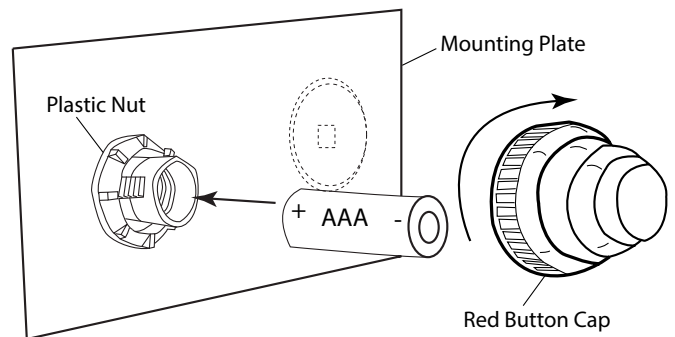

Fig. 13 Installing battery into Piezo module.
Step 4: The Piezo module mounts directly to the MT key valve bracket. Install the Piezo module using the smaller hole with the two notches and slide module into the place until it stops. Using the plastic nut thread it onto the Piezo module to secure into place. Be careful not to turn the nut too tight and crack the plastic. Install the AAA battery as shown and thread the red button cap on the remaining threads of the module. See Fig. 13.